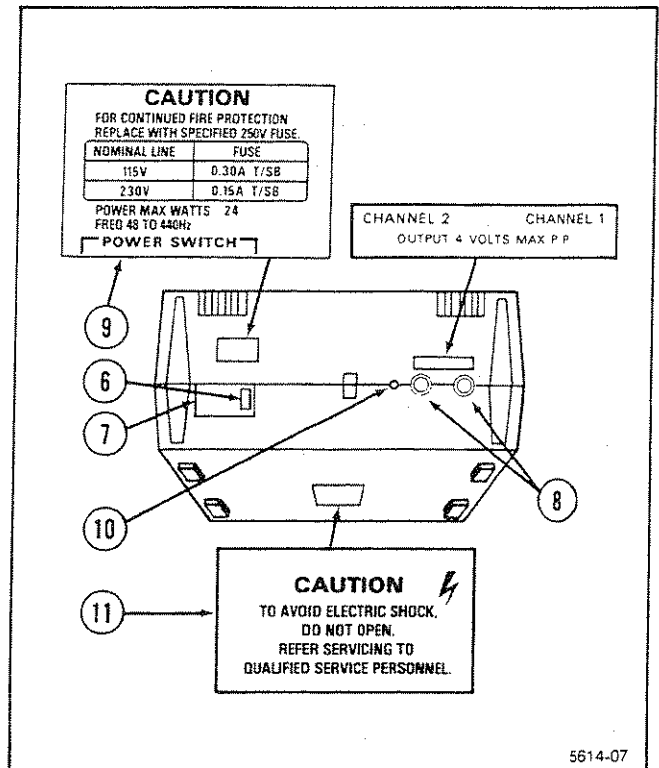

Figure 2-6. Rear- and bottom-panel controls, connectors, and labels.
Refer to Figure 2-6 for the location of items 6 through 9.
- ⑥ **POWER SWITCH** controls application of ac power to the Isolator. An indicator light on the front panel is actuated when the power switch is in its "on" position (1).
- ⑦ **POWER CONNECTOR/VOLTAGE SELECTOR** allows the connection of the ac power cord to the Isolator. The connector is an IEC connector, and includes the Voltage Selector/Indicator for alternative line voltage. (fully discussed in the "Preparation For Use" section of this manual.)
- ⑧ **OUTPUT VOLTAGE** connectors make available the output of Isolator Channels 1 and 2.
- ⑨ **CAUTION** label provides fuse replacement and line voltage information.
- ⑩ **EARTH-GROUND CONNECTION** is a standard banana-plug connector attached to the Isolator chassis ground.
- ⑪ **CAUTION** label warns operators not to open the A6902B case.
Refer to Figure 2-6 for the location of item 11.
Refer to Figure 2-6 for the location of items 6 through 10. **CAUTION** label warns operators not to open the A6902B case.